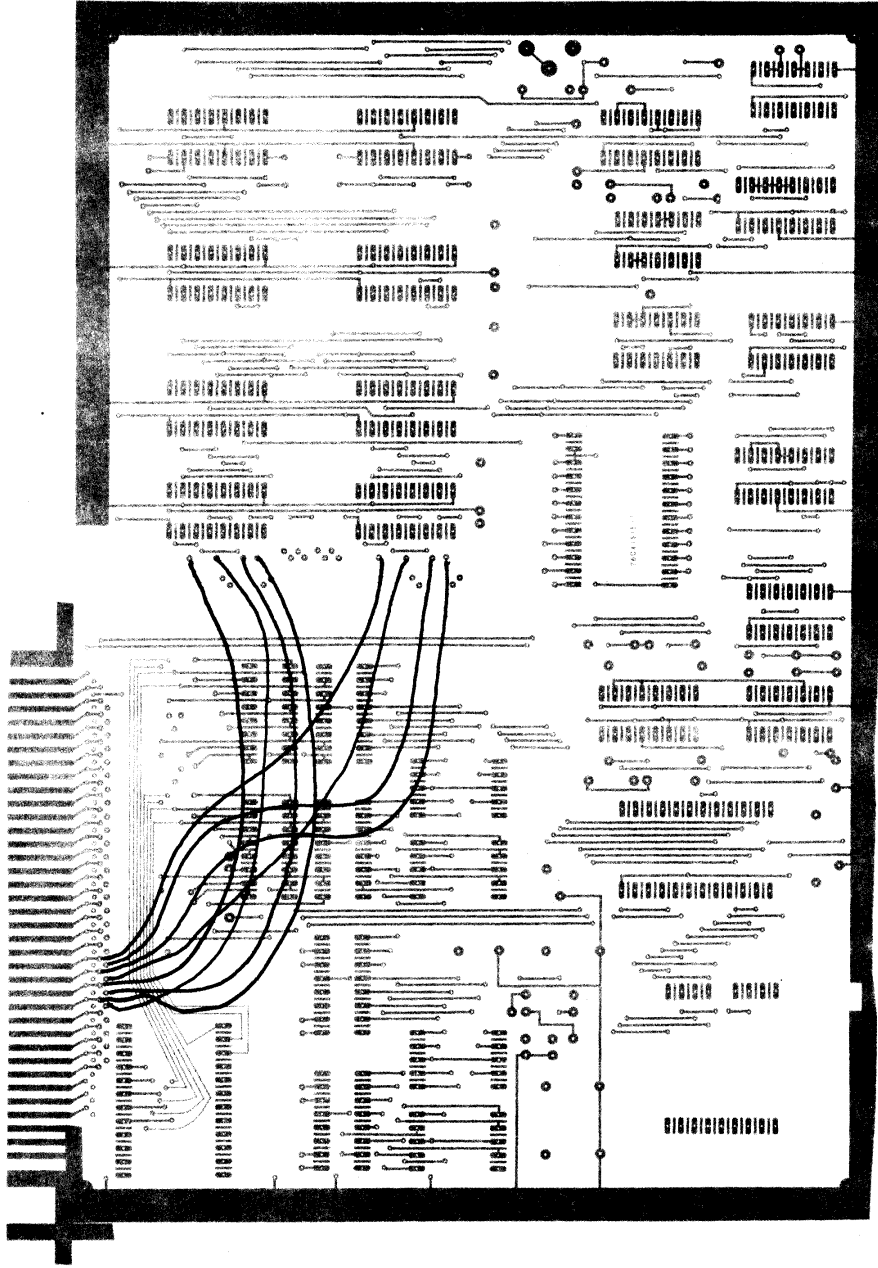

Figure 13. Output from Data Receiver Bussing
- (.) Cut and prepare eight 7 inch lengths of wire. Connect as indicated in Figure 13.